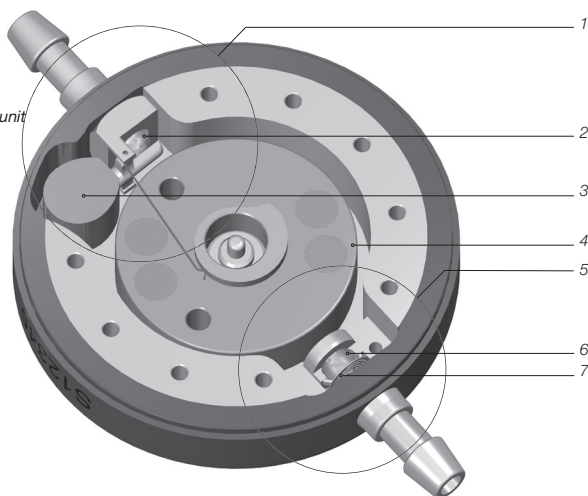

Fig. 1: Cross section of M.blue
M.blue is a valve made from titanium. It consists of an adjustable gravitational unit and a differential pressure unit (Fig. 1).